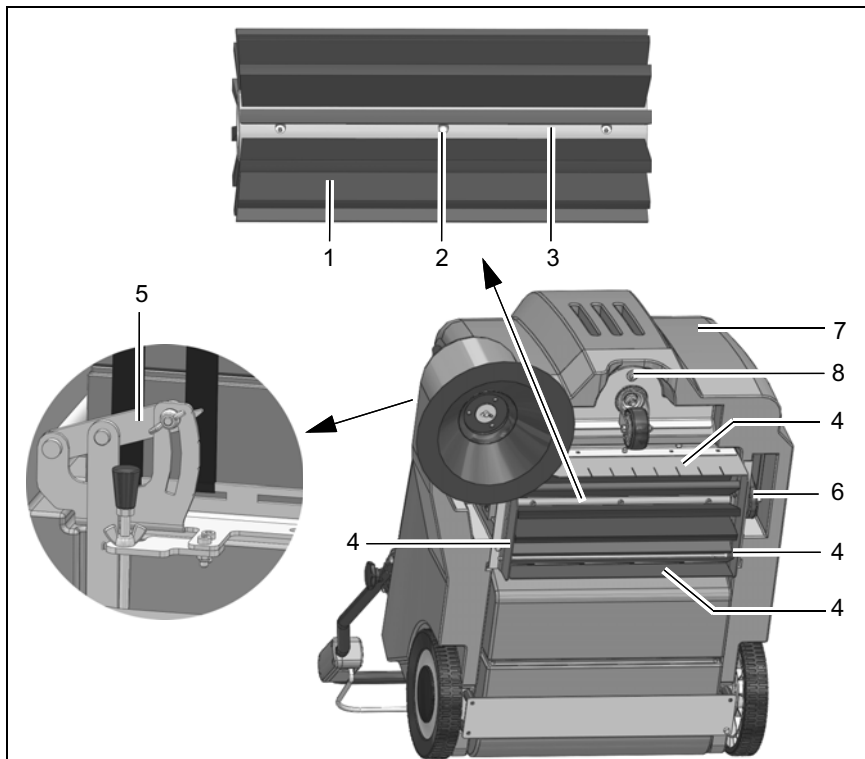

Fig.9
The brush space with rotary brush (Fig. 9/1) and gaskets (Fig. 9/4) must be checked daily for signs of dirt and cleaned, if necessary.
The rotary brush (Fig. 9/1) must be checked weekly and changed in the case of wear.
2. Loosen the six fillister head screws (Fig. 9/2) in the rotary brush and remove the two roller segments.
In the case of brush wear, and after changing the rotary brush (Fig. 9/1), re-adjust the sweeping pattern.
1. Switch the machine off, unscrew the locking bolt (Fig. 9/8) and open the hood (Fig. 9/7).
2. Loosen the wing nut on the adjusting lever (Fig. 9/6) and adjust the
sweeping pattern using the adjusting lever (Fig. 9/5) by pivoting it up and down until it touches the floor.
8. Close the hood (Fig. 9/7) and screw the locking bolt (Fig. 9/8) back in.
The four sealing strips (Fig. 9/4) must be checked weekly and changed in the case of wear.
2. Remove all four sealing strips (Fig. 9/2) with holders.
The timing belt (Fig. 9/6) must be checked every 500 operating hours and changed in the event of wear.
2. Slacken the timing belt (Fig. 9/6) using the tension pulley and remove the belt.
4. Close the hood (Fig. 9/7) and screw the locking bolt (Fig. 9/8) back in.